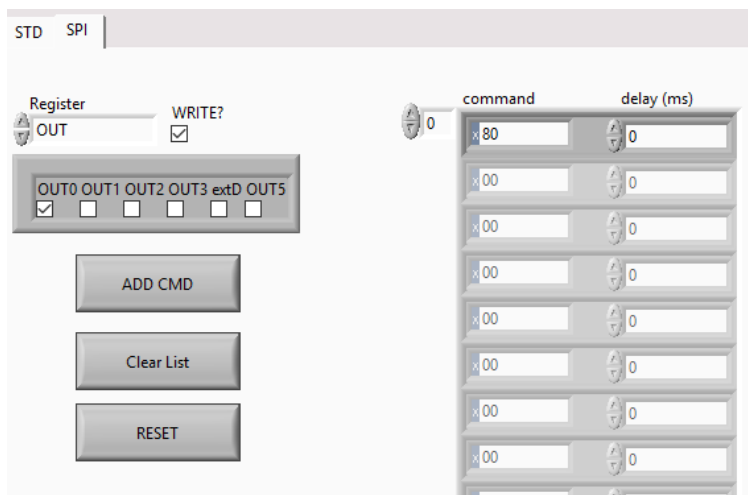

Figure 23 - Write OUT0
- Select OUT0 in the WRITE-Box (See Figure 23)